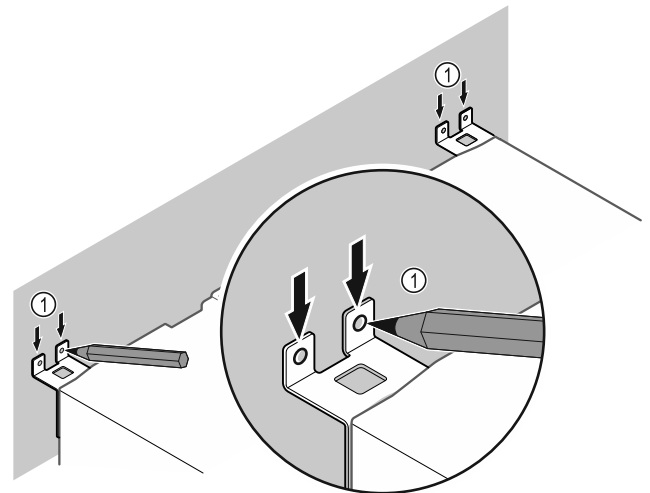

Fig. 53
- Make markings on the wall Fig. 53 (1).